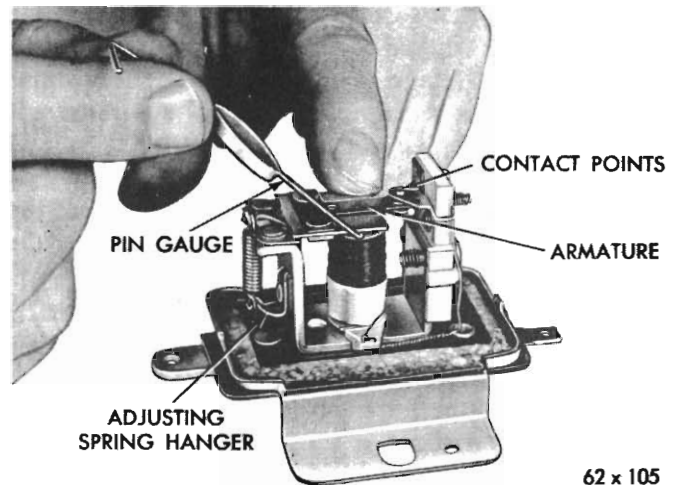

Fig. 10 - Checking Air Gap (typical view)
4. Insert a .040 wire gauge between the armature and magnet core, next to the stop pin on the spring hanger side (*refer Fig. 10*).